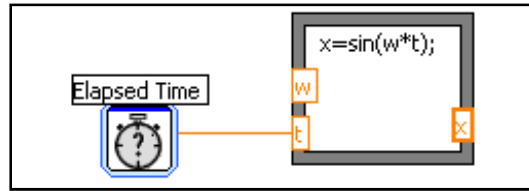

Figure 11. “Elapsed Time” block reduced into an icon.
- i) To save space, you could **[Right-click]** the “Elapsed time” block and select the **[View as Icon]** menu item. This should reduce the block to be an icon (See Figure 11.)